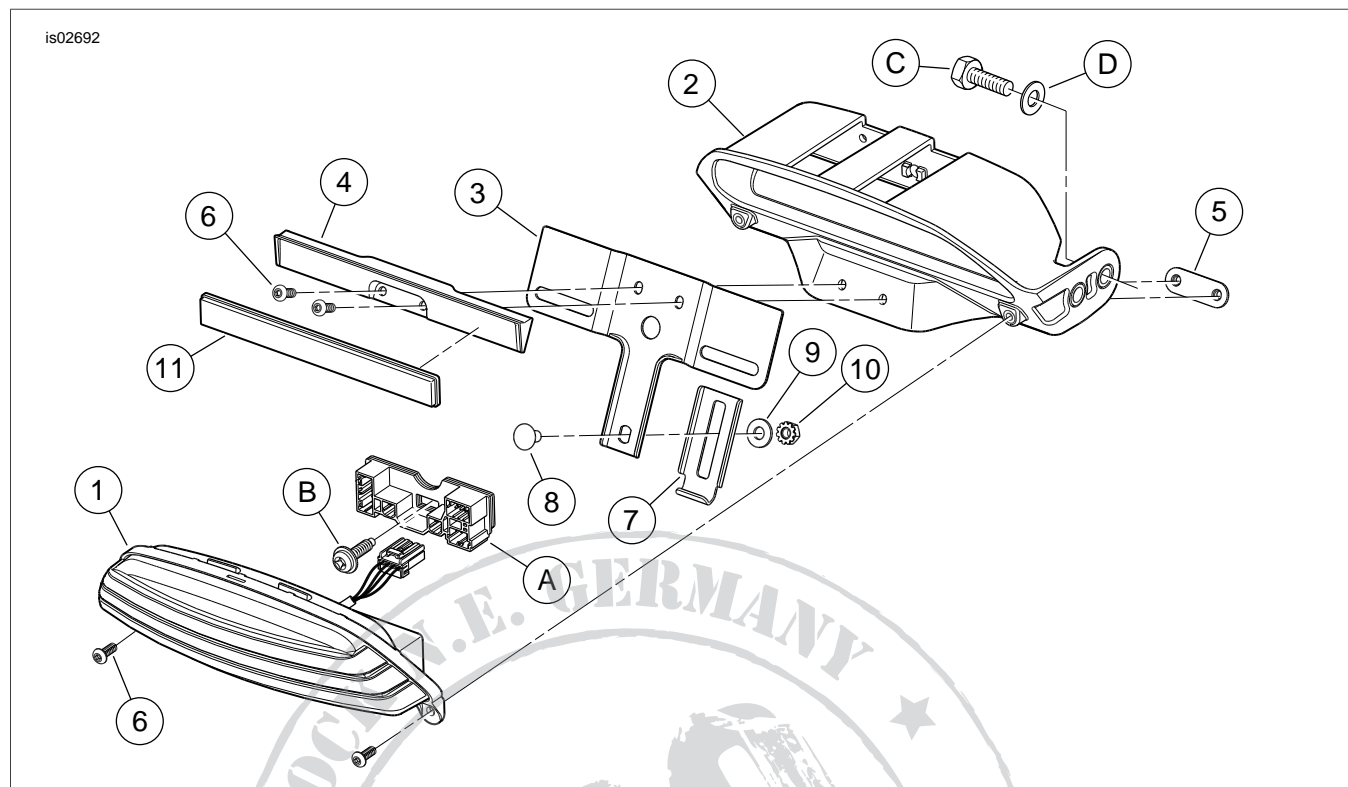

Figure 2. Service Parts, LED Tail Lamp
See Figure 2 and Table 1.
4. Depress the locking tabs, and disconnect both two-place turn signal socket housings [18B] and [19B](5) and the six-place power connector [94B](6) from the circuit board.
5. Remove the Phillips head screw (8) retaining the circuit board, and remove the pin housing/ circuit board and lamp base from the vehicle. Discard the lamp base, but retain the pin housing/ circuit board and screw.
8. See Figure 2. Obtain the **new** license plate/ tail lamp bracket (2) from the kit. Hold the bracket in position under the fender, and drop the six-place power connector [94B] and both two-place turn signal connectors [18B] and [19B] down through the slots in the top of the bracket.